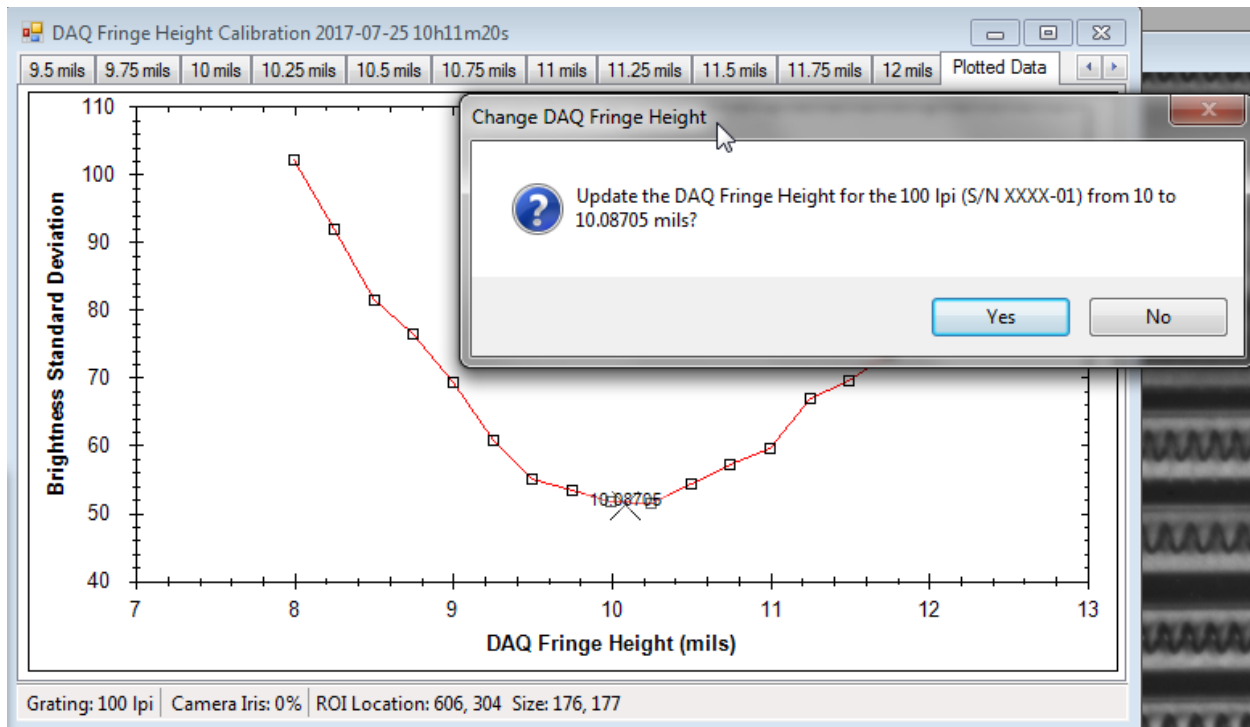

Figure 2.37 DAQ Fringe Height Cal Dialog
3. Right click to select **Start Calibration...** from the Camera window context menu. A series of images is taken with different step heights to determine the best calibrated phase step distance, or **DAQ Fringe Height**. While the images are being taken a dialog (see **Figure 2.37**) pops up showing the captured images and a plot of the intensity standard deviation for each step height trial.